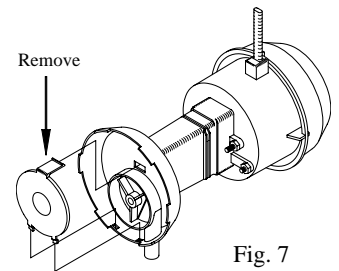

Fig. 7
- **Clean pump.** Cleaning the pump is necessary once a year at start-up. For your safety, disconnect from power source and unplug pump. Remove the pump from the mount bracket. Remove the base of the pump (Fig. 7). Clean the pump and turn the impeller to ensure free operation. Remove the pump spout and check for any blockage. After cleaning, reinstall the base onto the pump. Reattach the pump to the mount in the cooler to ensure that the pump will not overturn. Do not forget to replace the spout and water delivery tube onto the pump outlet. The pump has automatic reset thermal protection. Pump will operate normal again after obstruction is cleared.